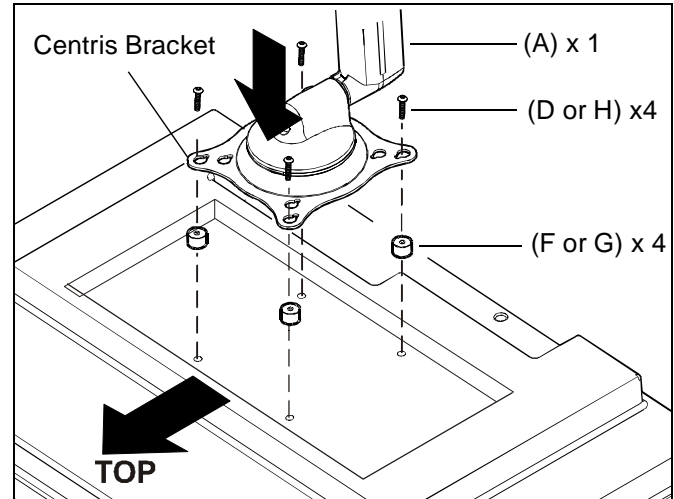

Figure 3:
3. Determine depth of recessed mounting holes relative to back surface of display (against which Centris head will contact). (See Figure 3)
4. Select proper length spacer and screw. (See Figure 3)
6. Pick up and orient the mount (A) so that the mounting holes in the Centris bracket are aligned with the holes in the spacers; rotate the bracket as required. (See Figure 3)
7. Using Phillips screwdriver, install four screws (D or H) through the mounting holes in Centris bracket, through the spacers (F or G), and into the display. (See Figure 3)